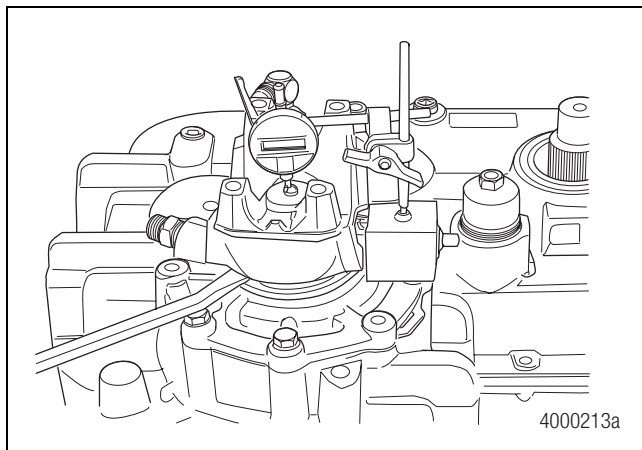

Figure 6.26
8. Set up a dial indicator to check input shaft bearing end play. Center the dial indicator over the shaft using a ball bearing for accuracy. Figure 6.26. If a sealing ring is broken, remove and replace the pump.